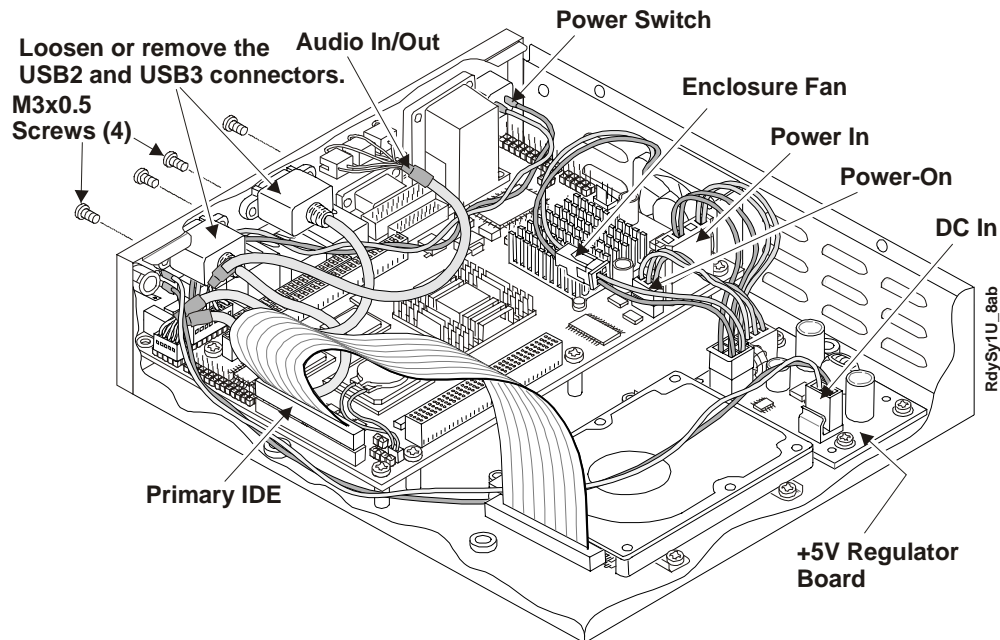

Figure 2-4. Removing USB Connectors
5. If necessary, remove or loosen the four screws holding the two USB cables (USB 2 & USB 3) to the enclosure I/O Panel. See Figure 2-4.
You might be able to just loosen the two USB connectors (USB 2 & USB 3) to free the ReadyBoard from the enclosure because of the tight fit between the two USB connectors and the tops of the Ethernet ports. If not, you will have to remove the two USB connectors (USB 2 & USB 3) from the enclosure. See Figure 2-4.
6. If necessary, remove the two USB cables (USB 2 & USB 3) connected to the enclosure I/O Panel. See Figure 2-4.
7. Disconnect all of the remaining cables from the ReadyBoard, before continuing. See Figures 2-4, 2-5, and 2-6.
- ♦ If necessary, for greater access to the internal space of the ReadySystem, disconnect any cables between the +5 volt regulator and the internal parts of the ReadySystem. See Figures 2-4 & 2-6.